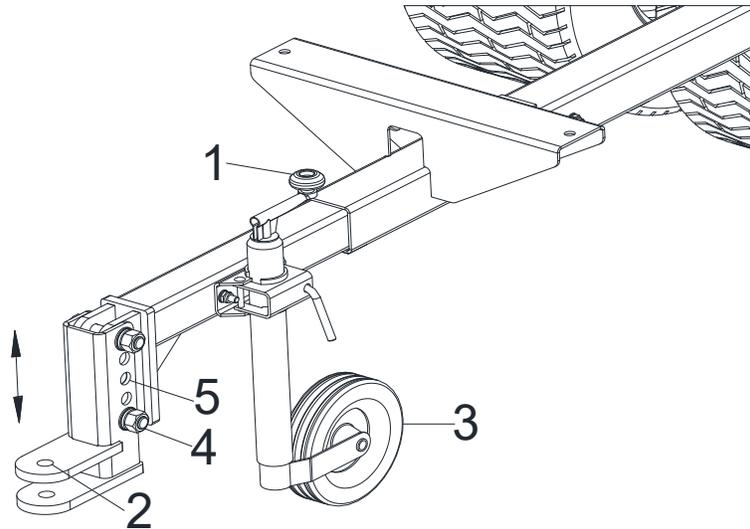
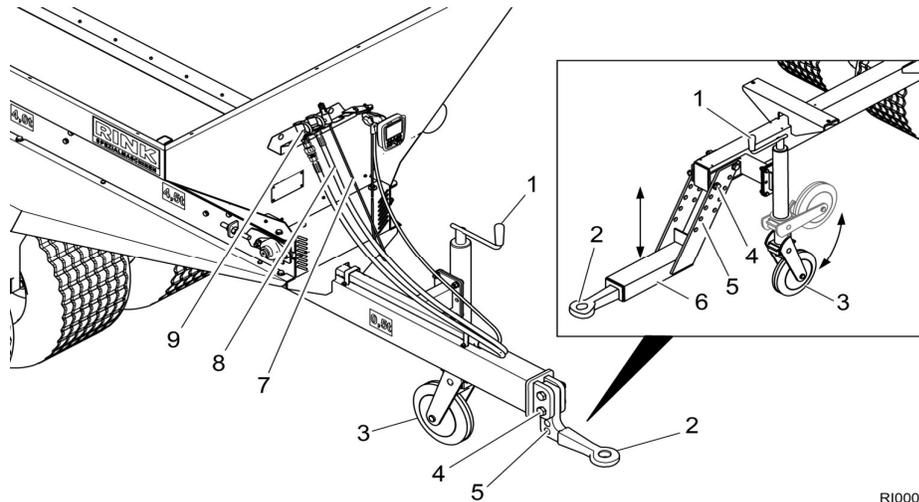
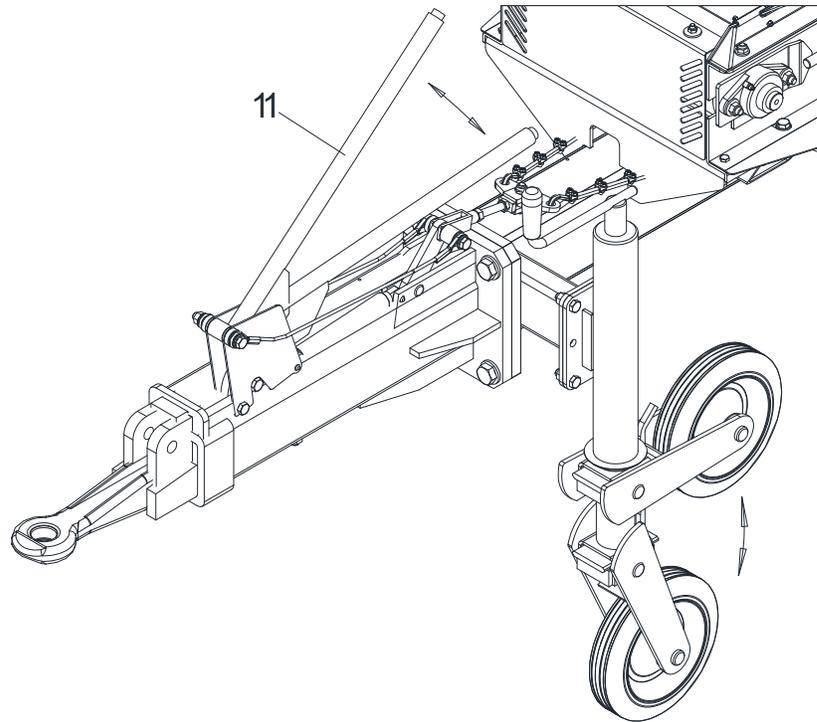

Fig. 26 Connections DS1200
Fig. 27 Connections DS1600, DS3100
Fig. 28 Connections DS1600, DS3100
2. If the trailer hitch and the drawbar (Fig. 26/2) are not at the same height the drawbar can be adjusted in height using the bolted connections (Fig. 26/4) and the offset holes (Fig. 26/5).
4. Attach the drawbar (Fig. 26/2) to the trailer hitch of the towing vehicle, refer to the operating instructions of the towing vehicle.
5. Connect the hydraulic lines to the towing vehicle. To do this, connect the feed line (Fig. 27/8) and return line (Fig. 27/9) of the disc spreader to the respective hydraulic connections of the towing vehicle.
6. Connect the electrical cable ((Fig. 27/7) to the towing vehicle.
7. Set the jockey wheel (Fig. 26/3) to the uppermost position. To do this, raise the jockey wheel axle completely with the crank (Fig. 26/1).
2. If the trailer hitch and the angled drawbar eye (Fig. 27/2) are not at the same height, the angled drawbar eye can be adjusted in height or even rotated by 90° using the bolted connections (Fig. 27/4) and the offset holes (Fig. 27/5).
4. Connect the hydraulic lines to the towing vehicle. To do this, connect the feed line (Fig. 27/8) and return line (Fig. 27/9) of the disc spreader to the respective hydraulic connections of the towing vehicle.
5. Connect the electrical cable (Fig. 27/7) to the towing vehicle.
6. Set the jockey wheel (Fig. 27/3) to the uppermost position. To do this, raise the jockey wheel axle completely with the crank (Fig. 27/1).
2. If the trailer hitch and the drawbar eye (Fig. 27/2) are not at the same height, the downward-cranked part of the drawbar with angled drawbar eye can be adjusted in height using the bolted connections (Fig. 27/4) and the offset holes (Fig. 27/5).
4. Attach the drawbar eye (Fig. 27/2) to the trailer hitch of the towing vehicle, refer to the operating instructions of the towing vehicle.
6. Connect the electrical cable (Fig. 27/7) to the towing vehicle.
7. Set the jockey wheel (Fig. 27/3) to the uppermost position. To do this, raise the jockey wheel axle completely with the crank (Fig. 27/1).
3. Connect the hydraulic lines to the towing vehicle. To do this, connect the feed line (Fig. 27/8) and return line (Fig. 27/9) of the disc spreader to the respective hydraulic connections of the towing vehicle.
4. Connect the electrical cable (Fig. 27/7) to the towing vehicle.
5. Set the jockey wheel (Fig. 27/3) to the uppermost position. To do this, raise the jockey wheel axle completely with the crank (Fig. 27/1).
6. To drive, release the brake (Fig. 28/11)
1. Set the jockey wheel (Fig. 26/3), (Fig. 27/3) to the lowest position. To do this, lower the jockey wheel axle completely with the crank Fig. 26/1), (Fig. 27/1).
2. Tighten the brake of the overrun brake system (Fig. 28/11)
3. Disconnect the electrical cable (Fig. 27/7) from the towing vehicle and remove it.
4. Detach the feed line (Fig. 27/8) and return line (Fig. 27/9) from the towing vehicle and remove them.
5. Detach the angled drawbar eye (Fig. 26/2), (Fig. 27/2), (Fig. 28) from the trailer hitch of the towing vehicle, refer to the operating instructions of the towing vehicle.